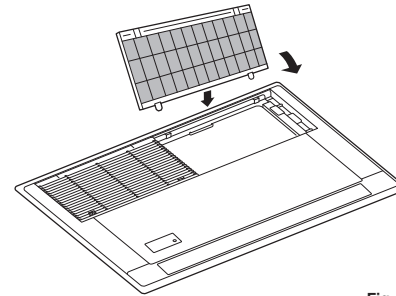

Fig. 7-12
- (2) Use the supplied screws (4 x 12) to attach the side panel to the ceiling panel.
- When installing the intake grille, take care that the flap lead wire does not become pinched. (Fig. 7-12)